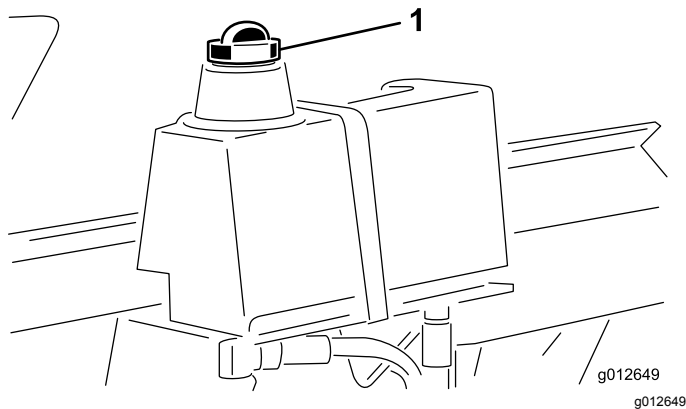

Figure 34
2. Clean area around filler neck and cap of hydraulic tank, and remove the cap (Figure 34).